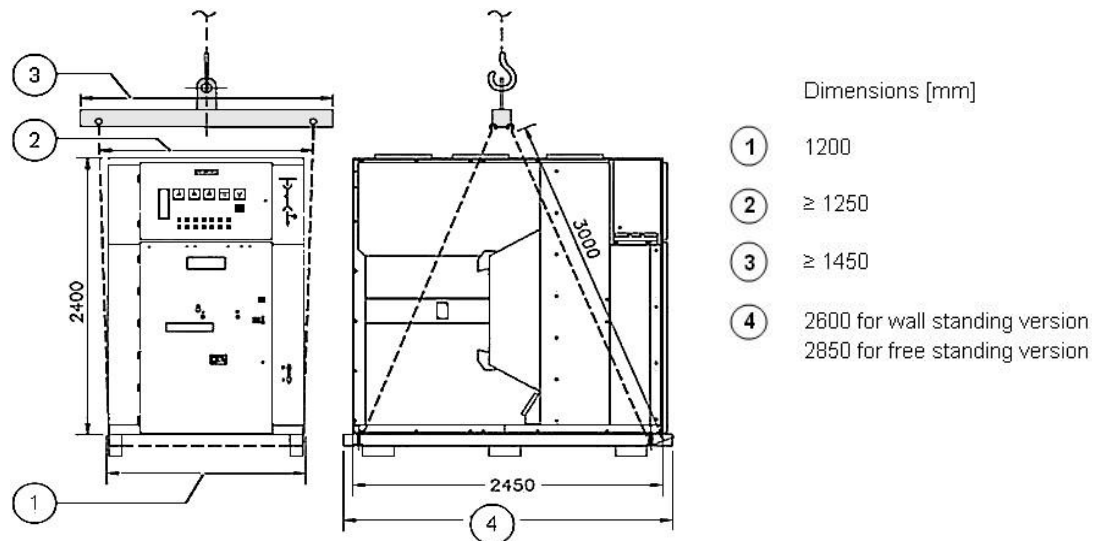

Fig11. Unloading by crane
- ⇒ Attach ropes far enough on the hoisting tackle so that they cannot exert any forces on the cubicle walls under load. The hoisting tackle can optionally be ordered as an accessory (fig11).